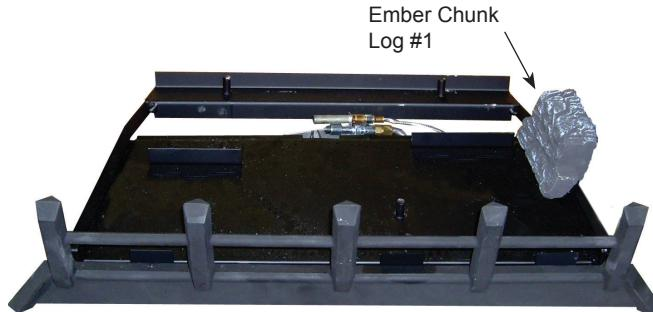

Figure 31.
1. Place the #1 log (the “chunk”) on the grate bar right side of the burner adjacent to the controls. Figure 31